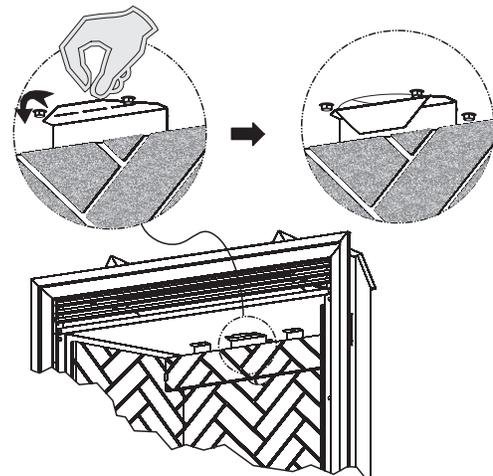

Figure 2
12. Remove Propane (LP) gas pilot injector orifice from pilot burner.
18. Attach air shutter to burner assembly with one (1) 8 x 1/4" screw from Step 7.
19. Attach burner assembly to firebox bottom with four (4) 10 x 1/2" screws from Step 7.
20. The flue vent baffle must be bent up to horizontal when converting to NAT gas from LP gas. Grasp edge of baffle and bend downward so that the flange is straight forward. **See Figure 2.**